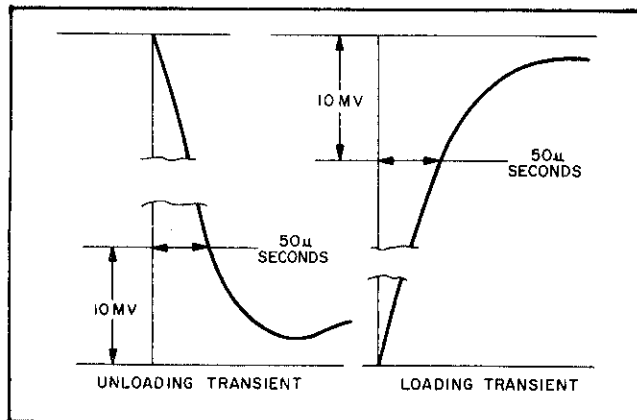

Figure 5-8. Transient Recovery Time, Waveforms
j. Starting from the major graticule division representative of time zero, count to the right 50 µsec and vertically 10mV. Recovery should be within these tolerances as illustrated in Figure 5-8.